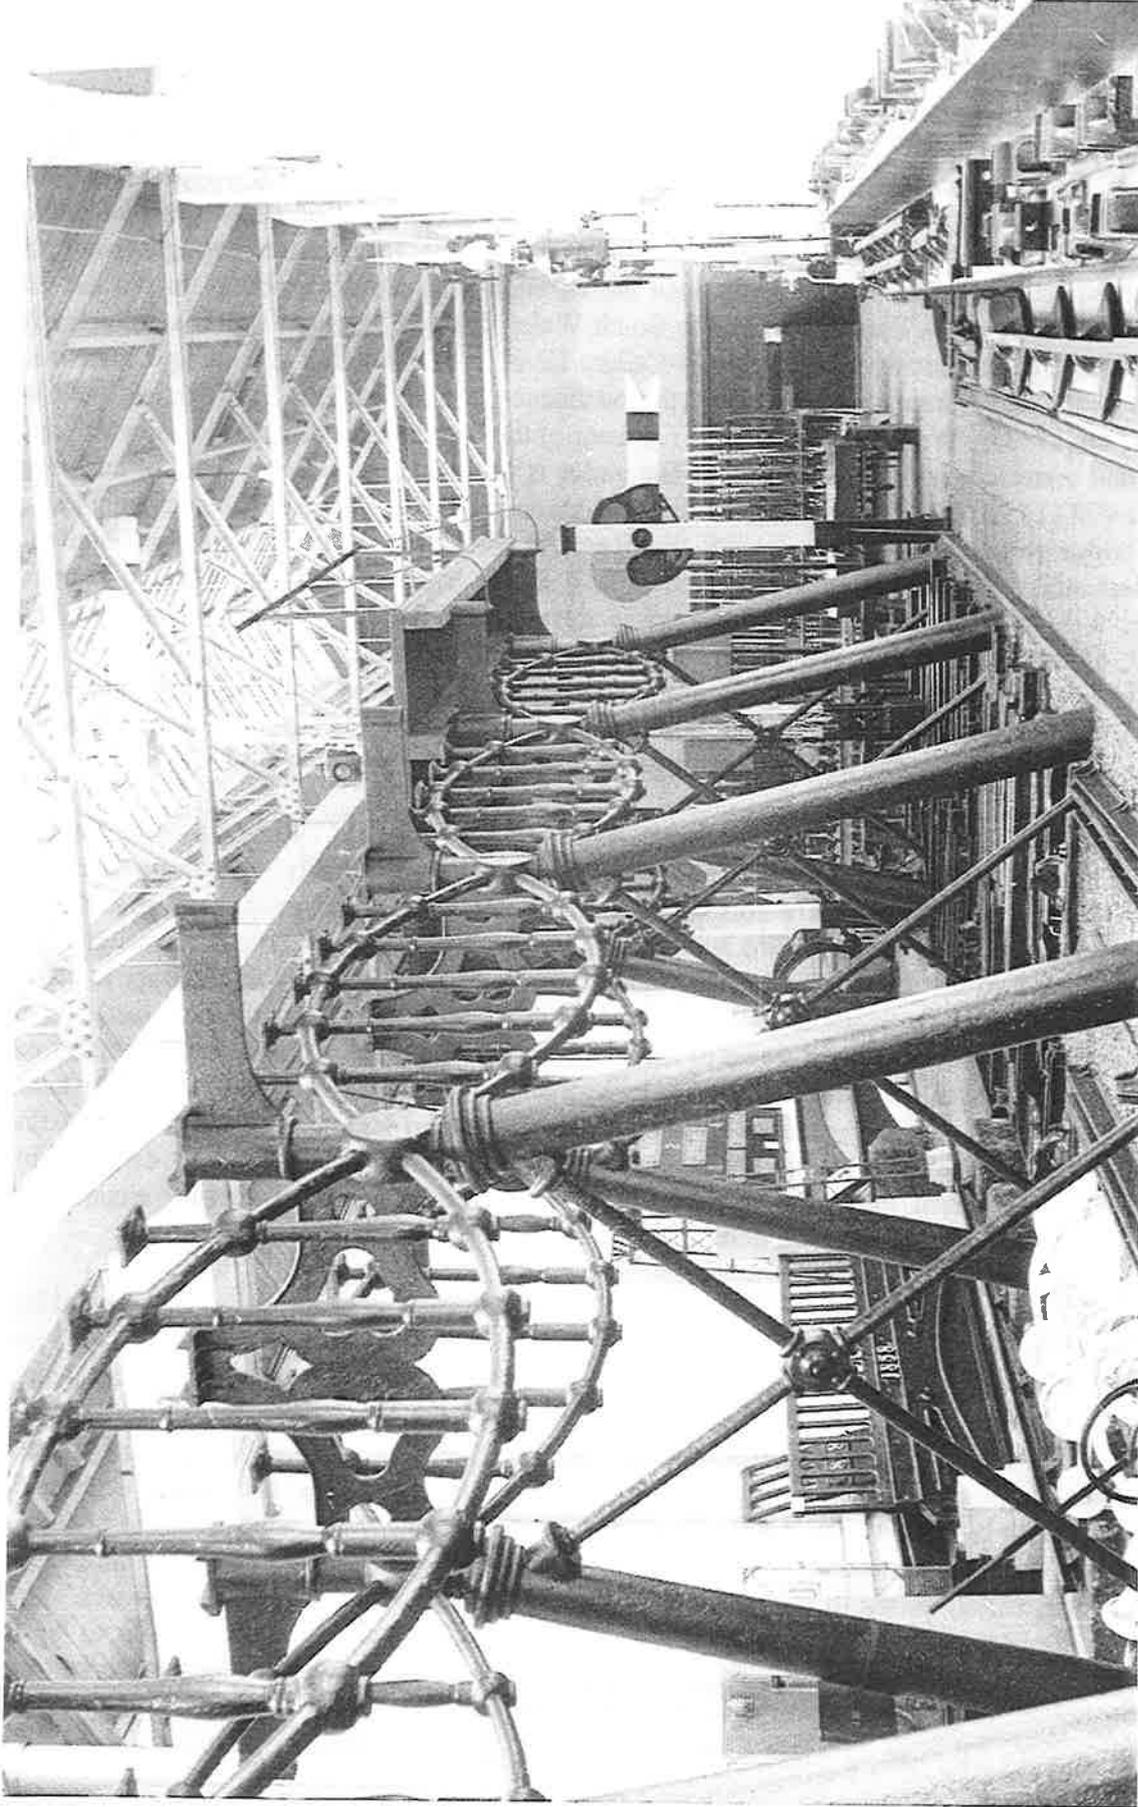

Figure 10
For years, the distinction of being the world's oldest surviving iron railway bridge has been accorded by scholars to the Gaunless Viaduct (1825), on display at the National Railway Museum, York (UK) (Figure 10). Designed by George Stephenson for the first railway, the 37 miles (23km) between Stockton and Darlington in north-east England, it consists of four 12.5ft (4m) lenticular truss spans with curved top and bottom chord members of 2.5in (6cm) diameter wrought-iron rods and five vertical iron posts cast integrally with the wrought-iron chord members. In the last 20 years an older bridge has been discovered in South Wales (UK) at Merthyr Tydfil, a major early 19th century iron-producing centre. Pont-y-Cafnau (Bridge of Troughs) is a unique cast-iron combined aqueduct tramroad bridge below the confluence of the Taff and Taff Fechan, built in January-June 1793 by Watkin George, Chief Engineer of the Cyfarthfa Ironworks, to carry an edge railway and water channel. An iron trough-like girder is carried in an A-frame truss of cast iron spanning 47ft (14.2m), held together by mortise-and-tenon and dovetail joints. The next extant iron railway bridge seems to be another recently discovered at Aberdare (1811), followed by Gaunless. The oldest still in service is Hall's Station Bridge, a Howe truss designed in 1846 by Richard Osborne, a London-born Irishman who worked as engineer for the Philadelphia & Reading Railroad, although its current use is vehicular and not rail. The first major iron truss with pin connections was built in the USA in 1859, and the earliest iron cantilever in Germany in 1867, over the Main at Hassfurt. Another important composite iron truss surviving from the early period of iron bridge construction is the Bollman bridge (c 1869) at Savage, Maryland (USA) (Figure 11).